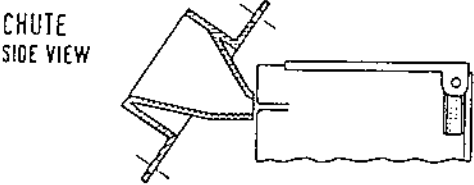

Fig. 1
- Install chute in place of cover in lid (see Fig. 1).
The height should be adjusted at Pos. 3 so that the dollar bill validator is aligned with the chute in the lid and is guided exactly into the acceptor slot (see Fig. 1).